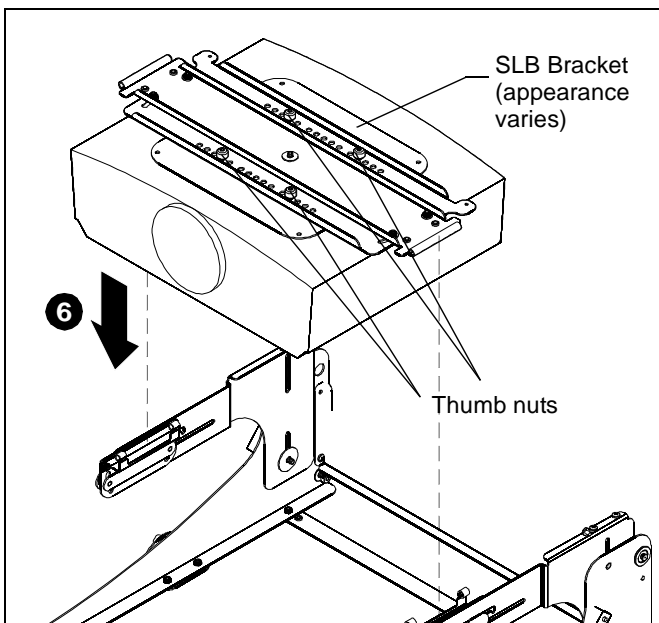

Figure 12
4. Place the yaw adjustment bracket over the studs on the SLB bracket, selecting the set of holes that best centers the projector weight. (See Figure 12)
6. Reinstall yaw adjustment bracket with projector to SL236i by setting it in place, and releasing tabs at each end of yaw adjustment bracket. (See Figure 12)